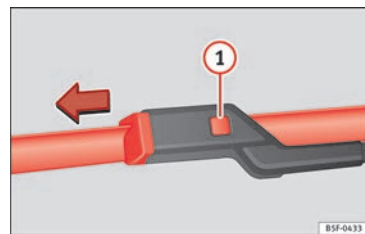

Fig. 89 Changing the windscreen wiper blade.
- Press the securing tab down ① » **Fig. 89.**